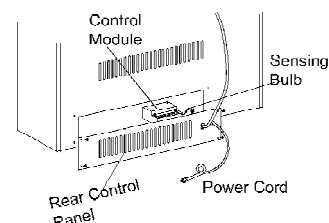
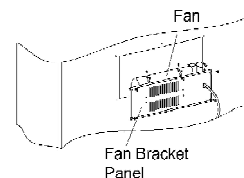
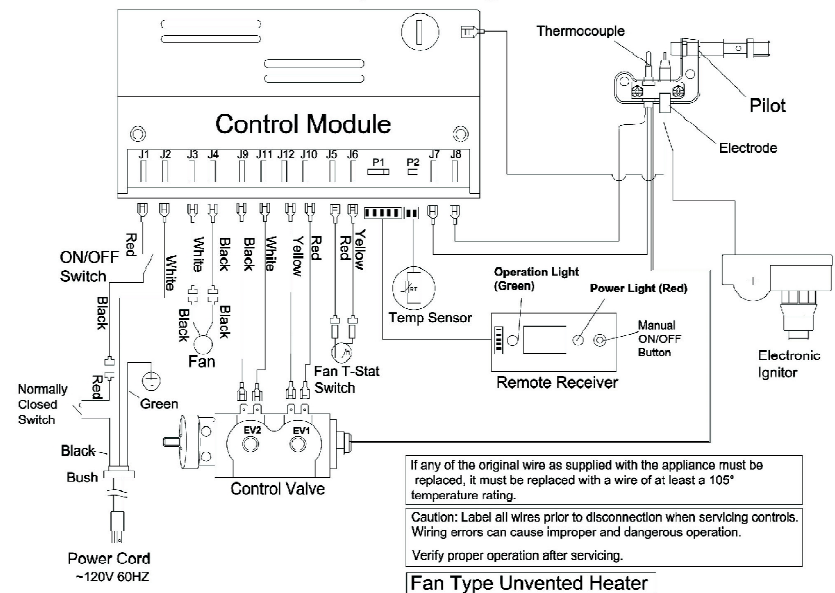

Figure 22- Control Model
Figure 23- Fan
Figure 25 - - Override Control System Diagram
2. Remove two screws and hex nuts, take out the control module. When installing, reverse the steps above. (See Figure 22 and Figure 25)
2. Mark or tag each wire removed for its exact reconnection. Remove the four screws from the fan. when installing, reverse the steps above. (See Figure 23 and Figure 25)